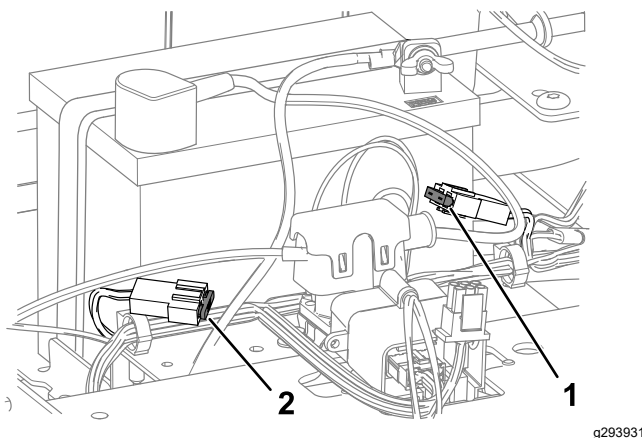

Figure 54
4. To replace a fuse, pull out the fuse to remove it (Figure 54).